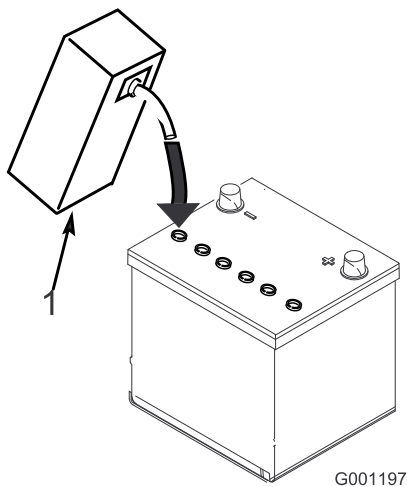

Figure 6
5. Carefully fill each cell with electrolyte until the plates are covered with about 1/4 inch (6 mm) of fluid (Figure 6).